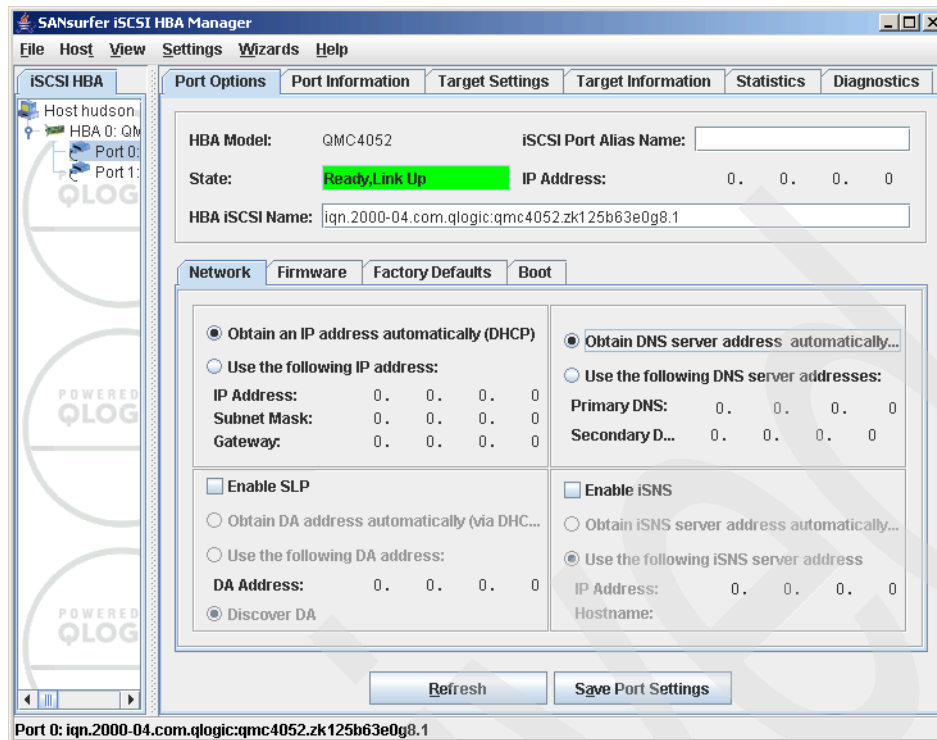

Figure 21-38 SANsurfer - Port Options - DHCP settings
2. Click **Obtain an IP address automatically**. Click **Obtain DNS server address automatically....**, and then click **Save Port Settings**. See Figure 21-38 on page 505.